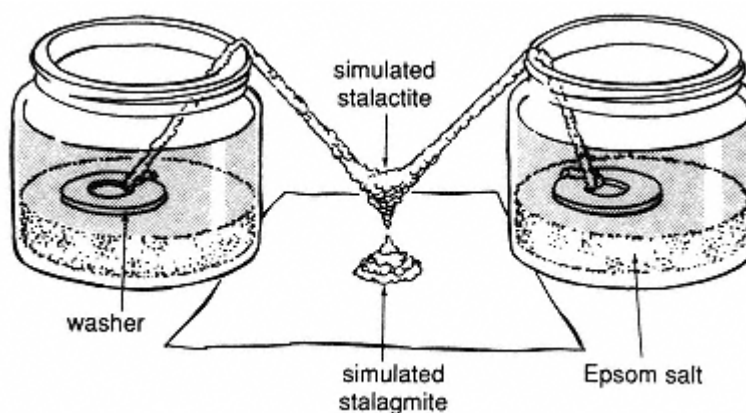

Figure 19.3
3. How do the crystalline **stalagmites** (formations growing up from the floor) and **stalactites** (deposits hanging from the ceiling) form in caves? Simulate the formation of these structures by filling two baby food jars with Epsom salt. Add water to cover the Epsom salt in each jar and stir. Cut a cotton string 12 inches (30 cm) long and tie a washer on each end. Set the jars on a cookie sheet and place one washer in each jar. Position the jars so that the string hangs between them with the lowest part about 1 inch (2.5 cm) above the cookie sheet (see Figure 19.3). Allow the jars to stand undisturbed and out of any draft for one week. You can use pictures of the development of the formations as part of a project display. Information about the chemical reactions involved in these formations can be found in an experiment called "Fake" (p. 30) in Janice VanCleave's *Earth Science for Every Kid* (New York: Wiley, 1991) and in other earth science texts.